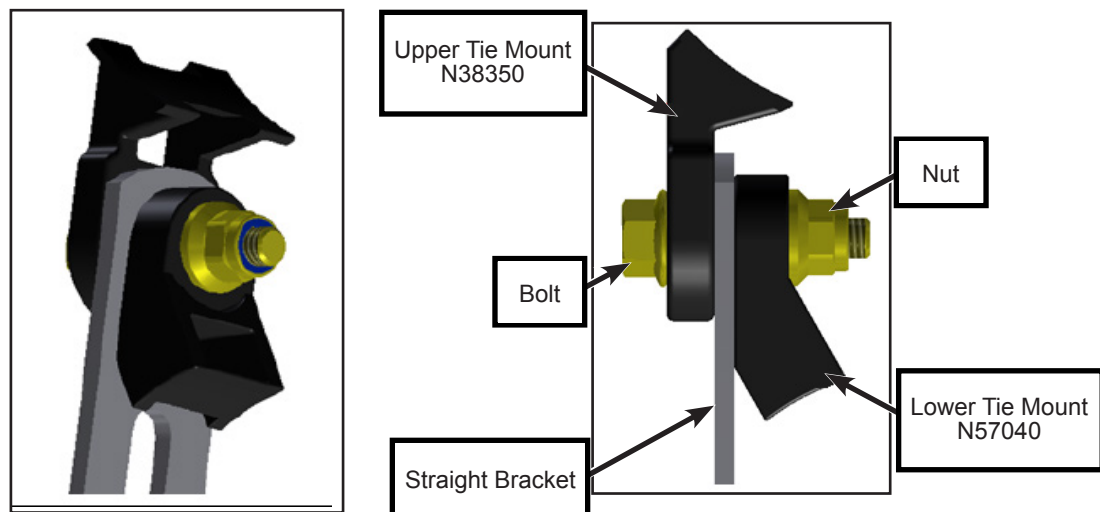

Figure 19 - Tie Mounts Installation
- 1.37. Install the two tie-mounts PN N57040 (1x) and PN N38350 (1x) on the straight bracket using the same mounting hardware (see figure 19).